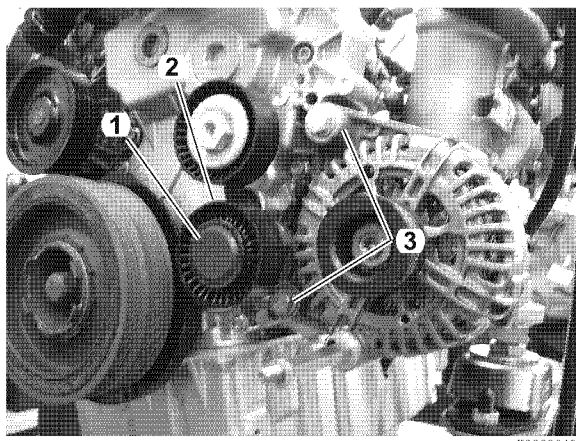

Figure 11-3
6. Pry off protective cap (1, **Figure 11-3**) and remove the bolt that secures idler pulley (2, **Figure 11-3**).
7. Remove two bolts (3, **Figure 11-3**) and remove alternator from engine.